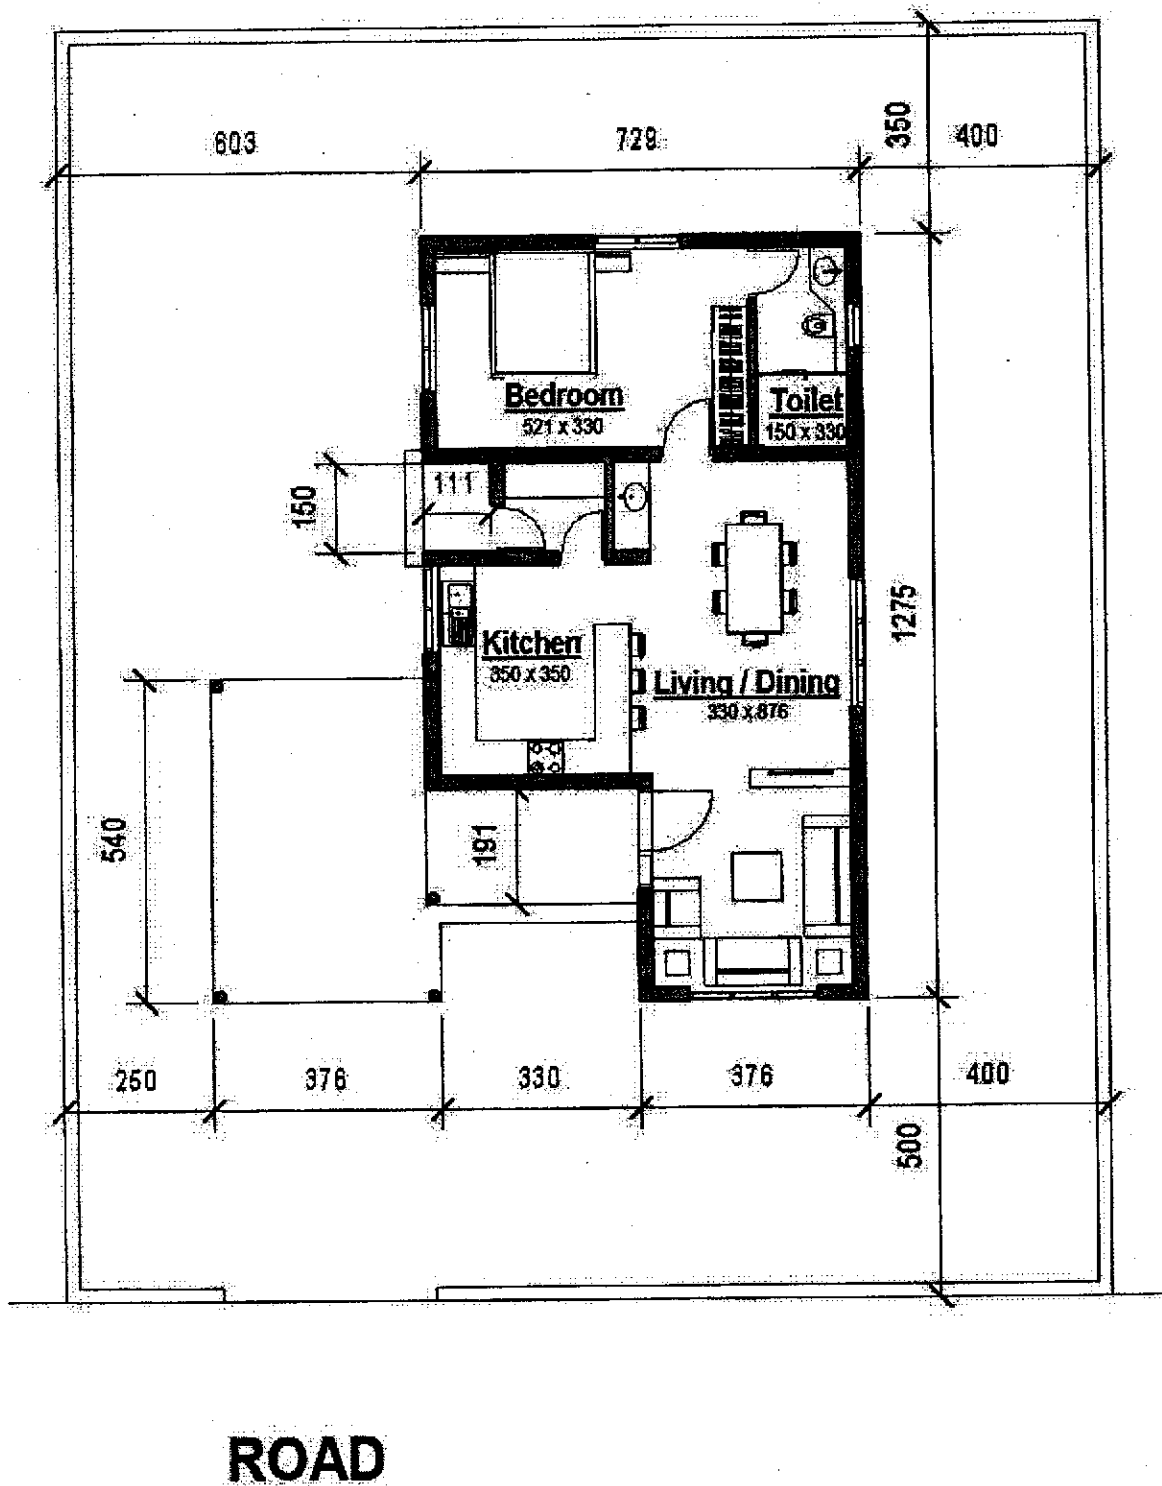

Figure 1
- II. The ground floor plan of residential unit is given in figure 1. The soil condition of the site is relatively hard. Prepare the central line drawing with all required dimensions for earth excavation (Scale 1:50). Assume necessary details required for the drawing.
- III. (a) Prepare a schedule of door, window and ventilator for the given plan in figure 1.
- IV. Draw the interior working drawing details for the kitchen (figure 1), with detailed furniture layout and elevations. (Scale 1:20).
- V. Draw the interior drawing details for the Bedroom (figure 1), with detailed furniture layout and elevations. (Scale 1:20).
- VII. Draw the interior working drawing details for the Toilet (figure 1), with detailed furniture layout and elevations. (Scale 1:20).